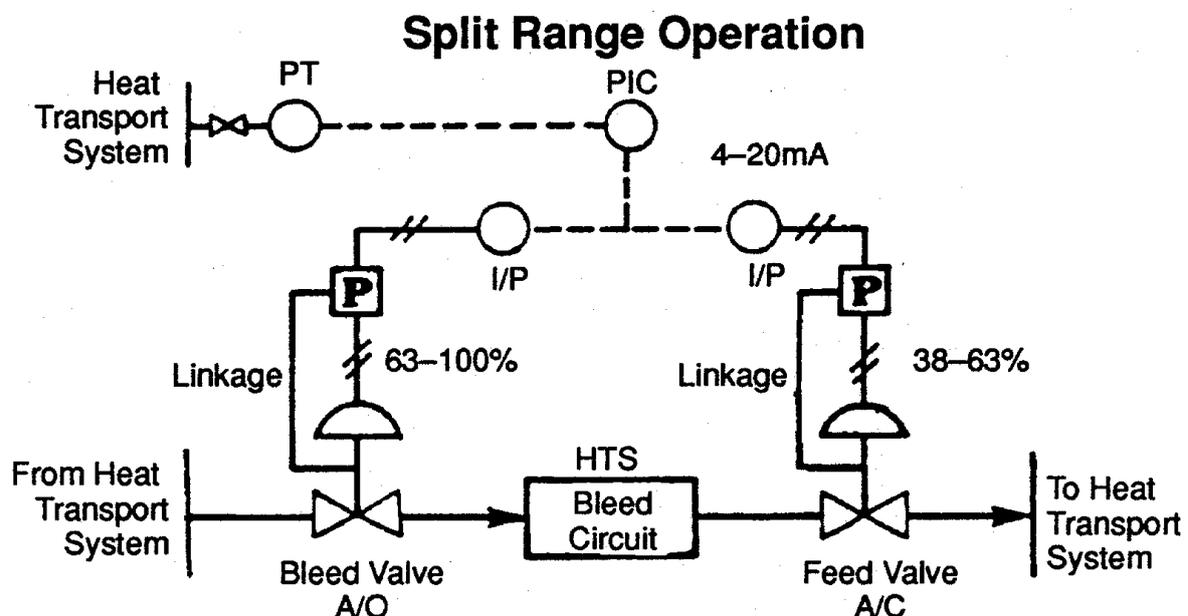

Figure 18: Split Range Control Loop for PHT Feed and Bleed Pressure Control.
- An example of a split-range control loop is the wide range heat transport (PHT) pressure control loop as shown in Figure 18. In this system, both valves use the same 4 - 20 mA signal from the controller.